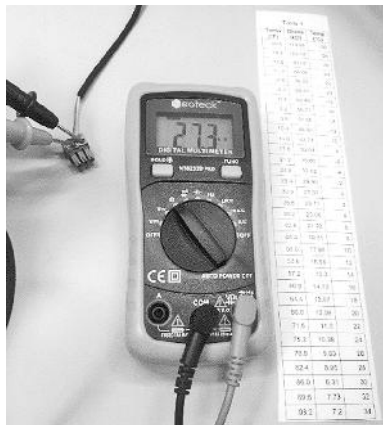

Figure 4
- 1) Use a multimeter and set it to the resistance (Ω) setting. See Figure 4.